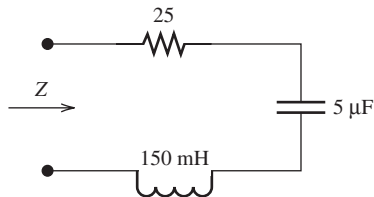

FIGURE P6.21 Circuit for Problem 6.21.
- 6.21** (B) Find Z in Figure P6.21 for $\omega = 200$, $\omega = 500$, and $\omega = 1000$.